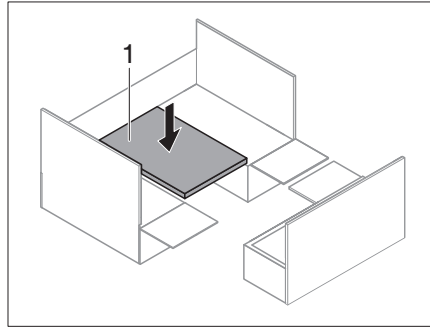

Fig. 214 Hooking table down
- Move the hooking table (Fig. 214,1) from the upper attachment rail into the lower attachment rail.